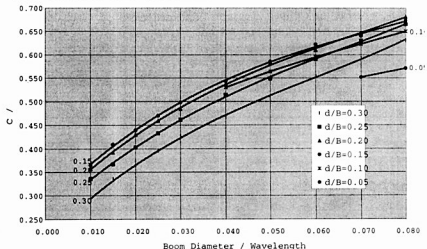
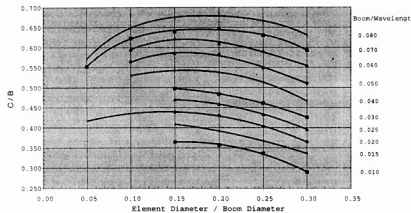

Fig 6. Boom Correction for Elements of Length 0.42λ wavelen d/B values as marked for each curve
Fig 7. Boom Correction for Elements of Length 0.42 Wavelength. Boom Diameter/Wavelength is marked for each curve.
The results may be plotted in the form C/B against B/λ , as in Figure 6, with separate curves for different element diameters. Alternatively C/B may be plotted against d/B , as in Figure 7, with separate curves for different boom diameters. Other possibilities
Figure 6 may be compared directly with Figure 1, based on the G3SEK formula. The curve shapes in Figure 6 are generally similar to that in Figure 1, but it is apparent that the intercepts on the vertical axis of Figure 6 are well above zero for all values of d/B . The curves in Figure 6 also intersect making it hard to use in practice. The reason for these intersecting curves is clearer in Figure 7. In general as the element diameter increases the boom correction factor C/B decreases as expected from the discussion earlier. In the case of thick booms however, the boom correction factor also falls for very thin elements, for which the reactance component is large. This is in fact a consequence of the use of a standard element of fixed length rather than fixed phase. The use of a standard element of fixed length is much easier to deal with in practice, but leads to curves that intersect when boom diameter is used as the horizontal coordinate.
For the practical prediction of boom corrections, Figure 7 is significantly easier to use than Figure 6, because the various curves are well separated and generally less inclined.
negative inductance contributed by the boom, and hence to slightly different constants in the formula. However when the procedure is reversed and the same program is used to find the corrections in other situations, such differences between programs should largely be eliminated. In effect the computer modelling is used to interpolate between boom correction factors which were found directly by experiment. Thus the author believes that the graphical results as presented in Figure 7 are substantially independent of the computer modelling, and represent a close approximation to the truth.
4. Refer to Figure 7, draw a vertical line corresponding to the value of d/B , and read off the value of C/B from the appropriate curve - interpolate between the curves as necessary.